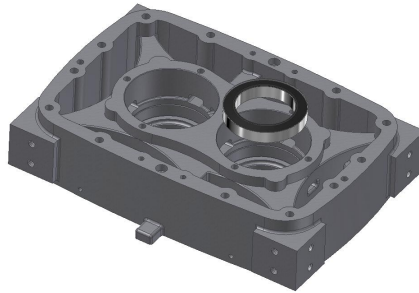

Figure 9-3 – MECHANICAL SEAL INSTALLATION
6b. Place spring loaded carbon half of mechanical seal assembly (43) in one of the bearing housing bores with the carbon facing up. Reference Figure 9-3.